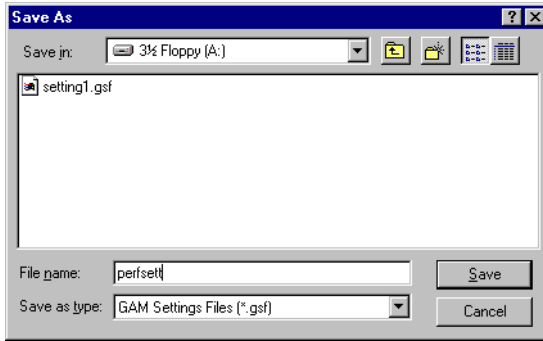

Figure 5-31. Save Settings to a File
1. Click Save Settings. A Save As dialog box is displayed (Figure 5-31).